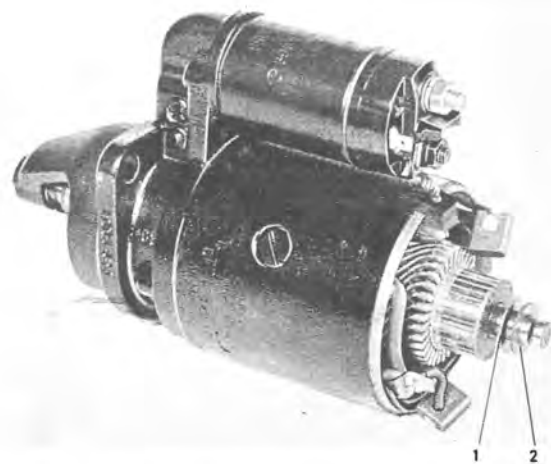

Fig. 3-34. Starter motor with brush bridge removed
5. Remove the bridge from the armature shaft. N.B. The washers are as shown in Fig. 3-34. When the bridge is removed, the "—" brushes follow also, but "+" brushes will remain in the field winding.
8. Fit the washers on the armature shaft as known in Fig. 3-34.